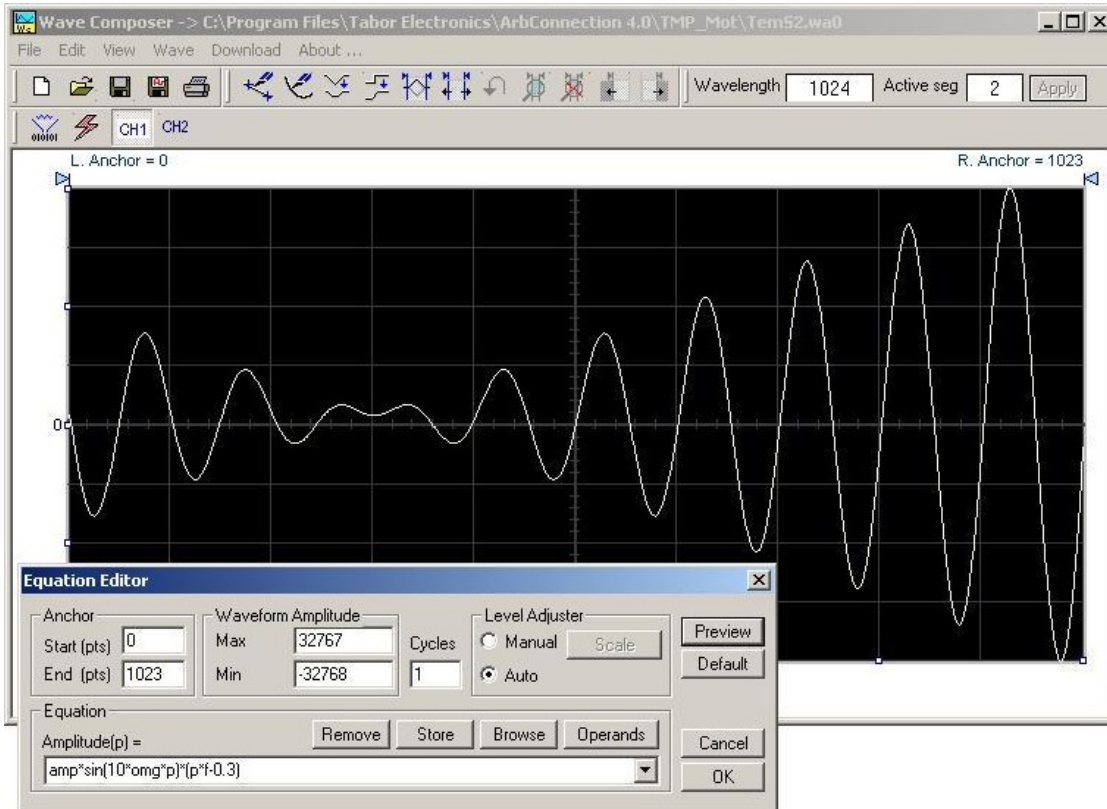

Figure 3-31, the Waveform Screen
*CSV (comma delimited text), *PRN (space delimited text) and *.0* (LeCroy binary format). The Open dialog box in Figure 3-31 shows the various file extensions that can be opened into the Wave Composer environment. The file that is opened is automatically converted to *.wav format and can later be saved as a standard ArbConnection file.